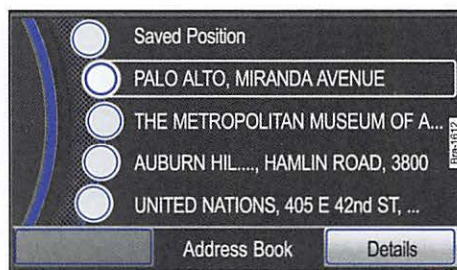

Fig. 55 Destination memory with manually stored destinations.
- Access the **Dest. Memory** list from the **Navigation** main menu $\Rightarrow$ page 37. Opens list of manually stored destinations $\Rightarrow$ fig. 55.